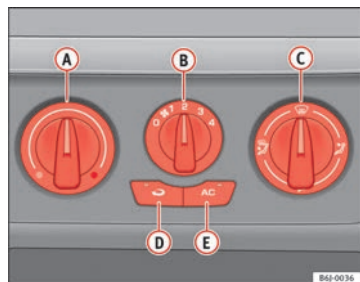

Fig. 93 Air conditioning controls on the dash panel
- Using the controls  $\Rightarrow$  fig. 93 **A** and **C** and with the switch **B** you can adjust the temperature, the air distribution and the blower speed.